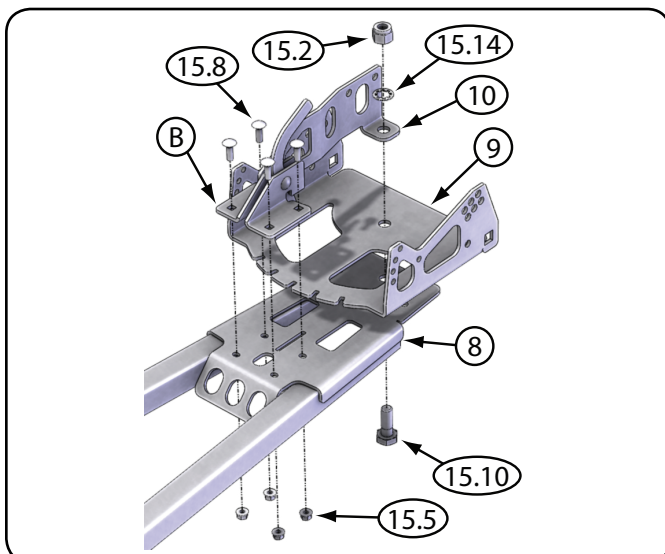

Figure 5 - Angle Plate and Angle Lever Assembly Install
2. Install angle lever assembly (B) to the tube weldment (8) as shown in Figure 5. Use the  $\frac{5}{16} \times 1$  in. (7.9 × 25.4 mm) standard carriage bolts (15.8) and  $\frac{5}{16}$  in. (7.9 mm) nuts (15.5) to secure the left and right handle plates. Tighten down bolts.
3. Secure the pivot plate (9) to the tube weldment (8) and hook plate (10) using the  $\frac{5}{8} \times 1\frac{3}{4}$  in. (15.9 × 44.5 mm) structural bolt (15.10),  $\frac{5}{8}$  in. (15.9 mm) lock washer (15.14) and  $\frac{5}{8}$  in. (15.9 mm) lock nut (15.2) as shown in Figure 5. **Tighten down nut and bolt so that the plate will pivot with ease but is not loose.**